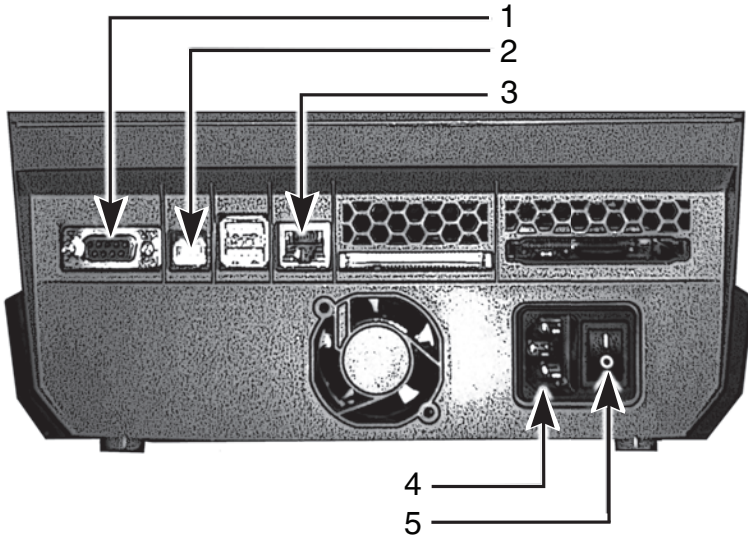

Figure 2, Interfaces and Connectors
The printer has a RS-232 port (**Figure 2, 1**), a USB port (**Figure 2, 2**) and an Ethernet port (**Figure 2, 3**).
1. Plug the power cable into the power connection socket on the back of the printer (**Figure 2, 4**).
3. Connect the printer to the computer using the supplied USB cable. The USB cable connects to the printer at the port (**Figure 2, 2**) and to a USB port on the computer.
5. Turn on the power switch on the back of the printer (**Figure 2, 5**). The printer will perform a self test and then go into Ready mode.